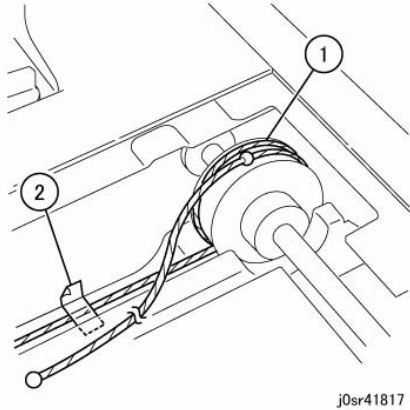

Figure 5 Wind the Carriage Cable around the Pulley for 2 rounds
2. Wind the Carriage Cable at the spring end around the Pulley for 2 rounds. (Figure 5)